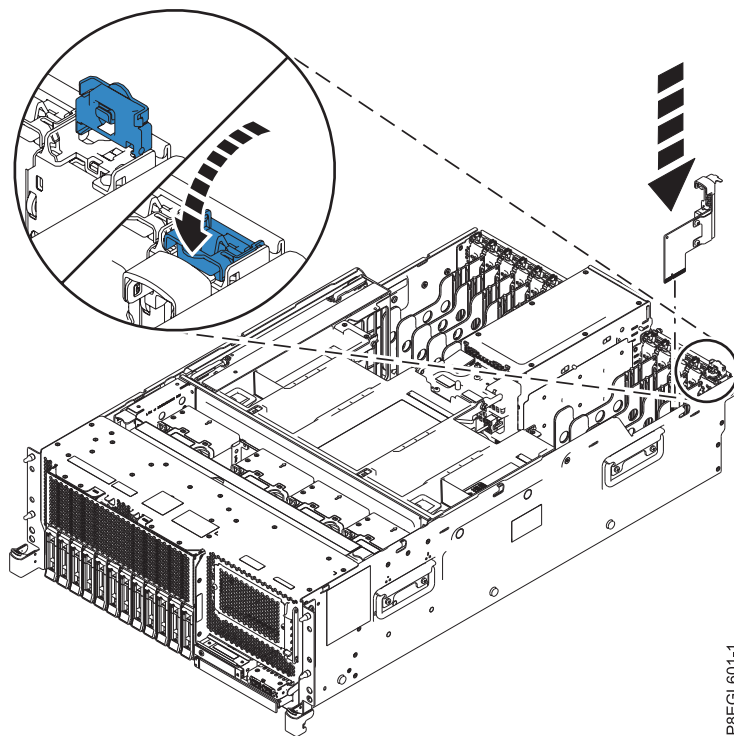
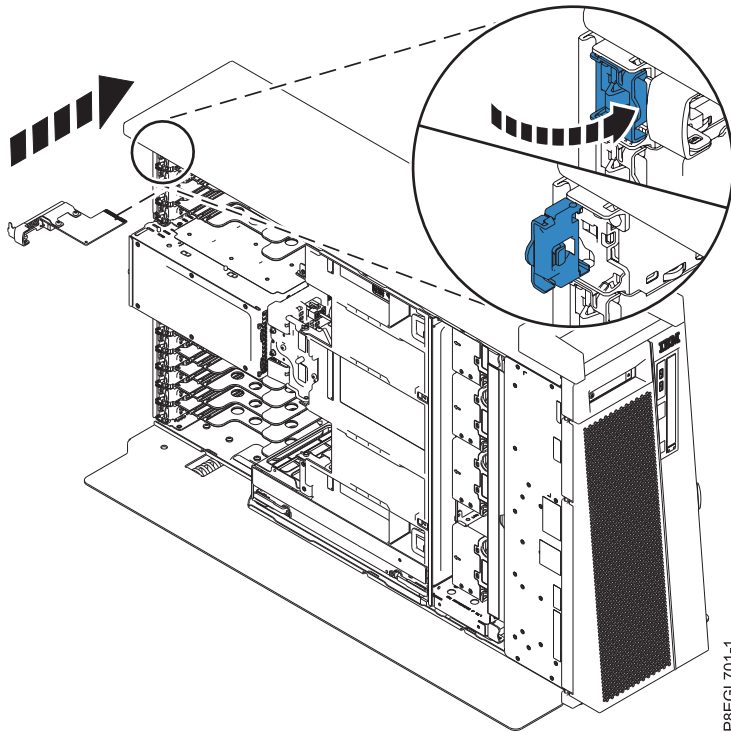

Figure 3. Replacing the system I/O card in a rack-mounted system
Figure 4. Replacing the system I/O card in a stand-alone system
2. With the blue locking latch in the open position, align the system I/O card with the guide rails on the system and slide the card straight into the card slot, as shown in Figure 3 and Figure 4 on page 6.
3. Rotate the blue locking latch in the direction shown in Figure 3 and Figure 4 on page 6 to lock the system I/O card in position.